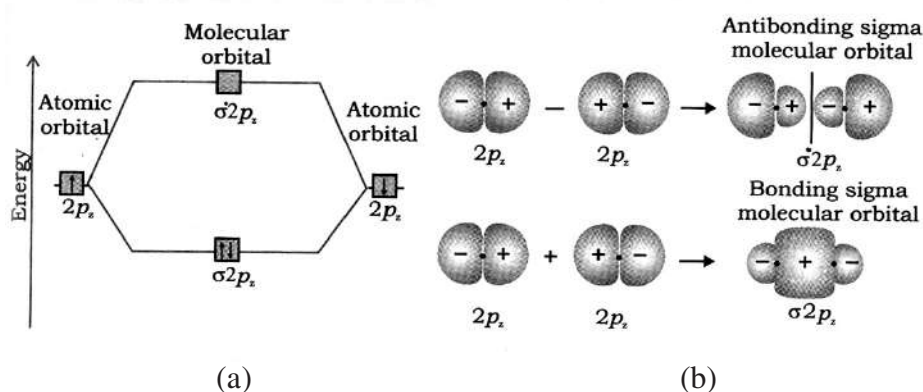

Fig. 4.12: Overlapping of two $2p_z$ orbitals to give molecular orbitals
As mentioned above, in LCAO, the atomic orbitals of **comparable energies** and of **suitable symmetry** combine to give molecular orbitals. A suitable symmetry means that the combining orbitals should have same symmetry about the molecular axis. It is normally assumed that the bond formation takes place along the z-direction. You have learnt in the first unit that the three p orbitals are directed towards three mutually perpendicular directions namely the x, y and z directions. Therefore the p_z orbitals of the two atoms would combine along the bond axis to give two molecular orbitals as shown below Fig. 4.12. Since these molecular orbitals are symmetric around the molecular axis these are called σ orbitals. The designation of the orbitals would be σ_{2p_z} and $\sigma_{2p_z}^*$.
2. Calculate the bond orders for Li_2 and Be_2 molecules using the molecular orbital diagrams given in Fig. 4.12.